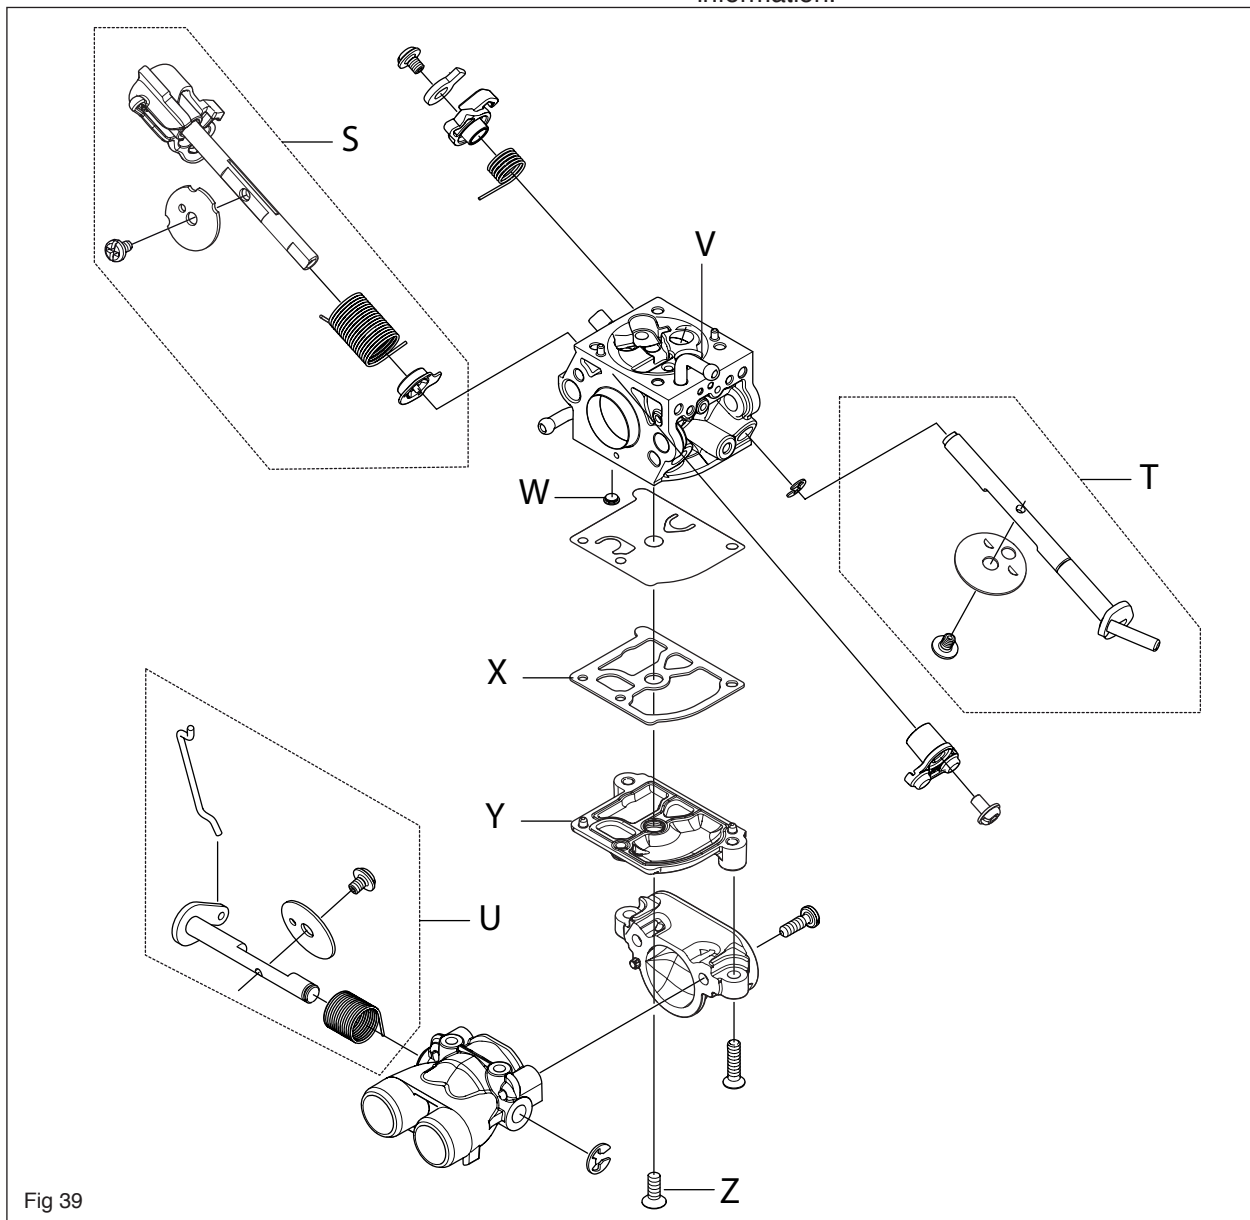

Fig 39
Use a needle or similar device and carefully pull up the fuel screen (W). See figure 39.
If necessary, dismantle throttle valve T and choke valve U and air valve S, and remove the shafts with lever arms and springs (see figure 39).
4. That the fuel screen W is intact and clean. See figure 39.
5. That the inlet manifold V is intact. See figure 39.
2. Fit the fuel screen W using the handle of a small screwdriver. See figure 39.
4. See figure 39 on how to assemble the AutoTune AB unit with gasket.